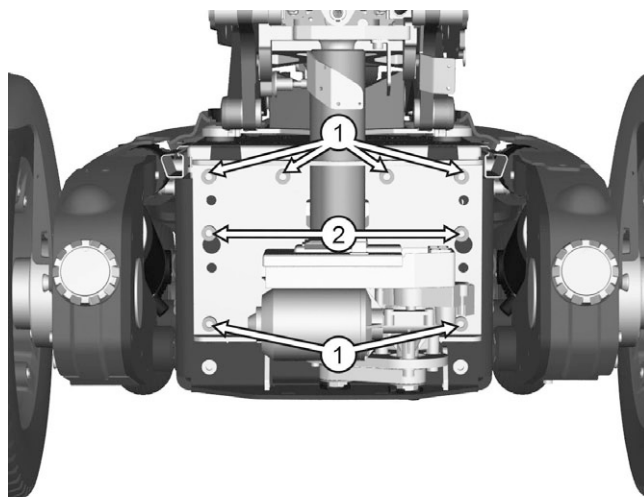

Figure 95. The AP Elevator is attached with eight screws at the front.
1. Fit the AP Elevator into the chassis. Fit the six screws (1) and tighten the two screws (2) holding the AP Elevator at the front. Use a torque wrench to tighten the screws. **Tightening torque: 24 Nm / 17.7 Ft/lbs.** See fig. 95.